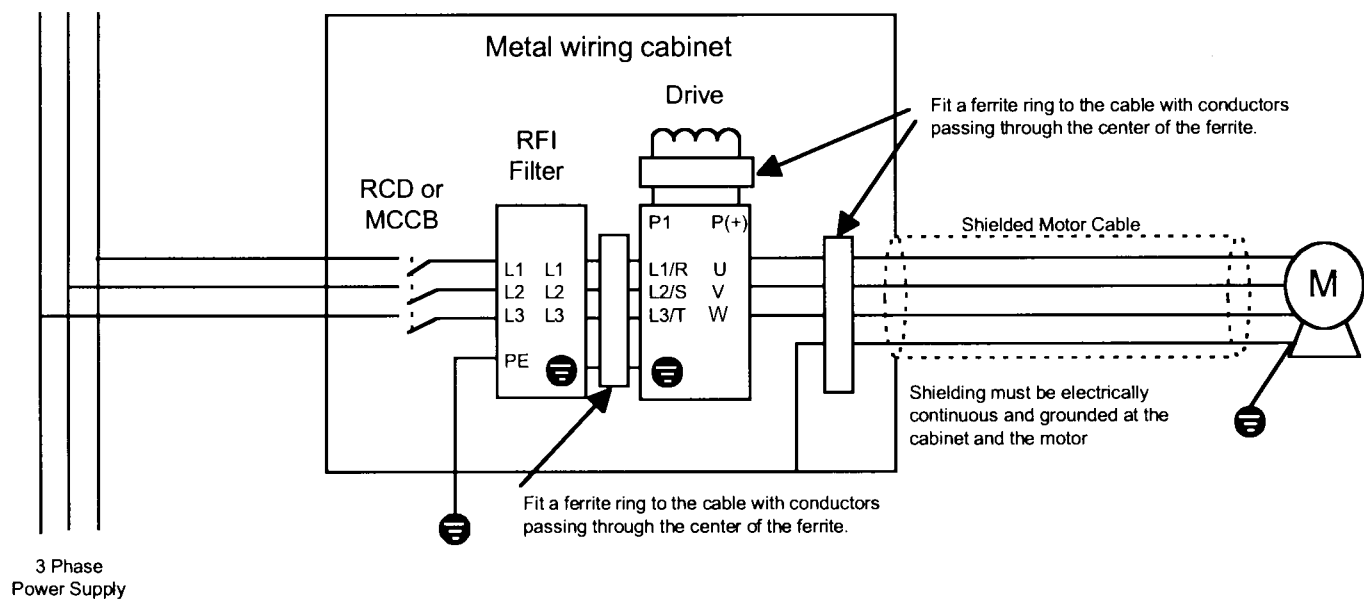

Figure 7 5700 460V 500 Hp and higher
- 6) In the case where a ferrite ring is provided with the filter, fit the ferrite ring so the conductors pass through the center of the ferrite. Wire the cable according to Fig.6 or Fig.7, paying attention to the applied Drive type.